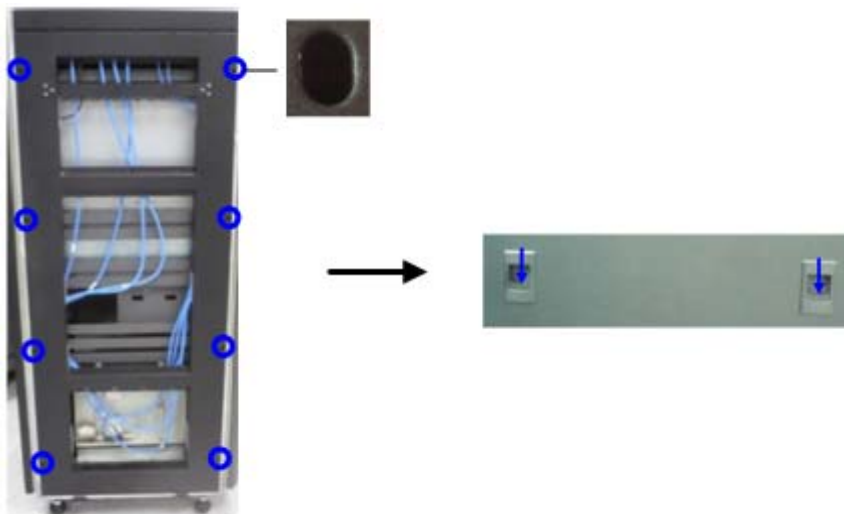

Figure 3-9 Disassembling the Side Door
**Step 2** Disassemble the side doors as shown in Figure 3-9.